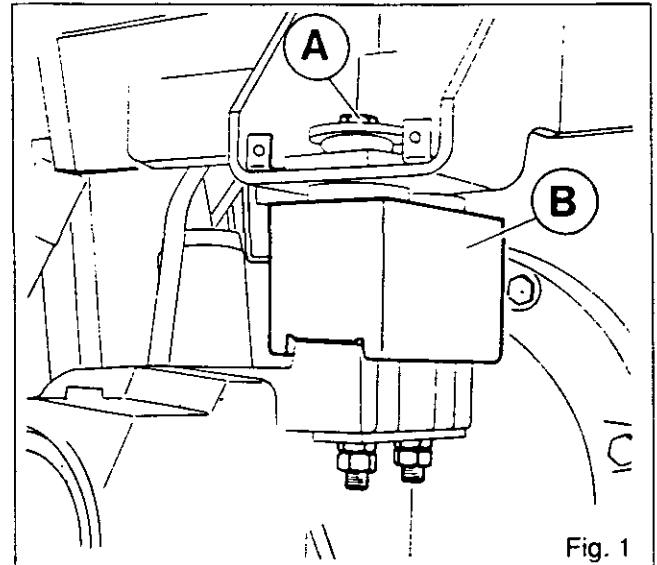
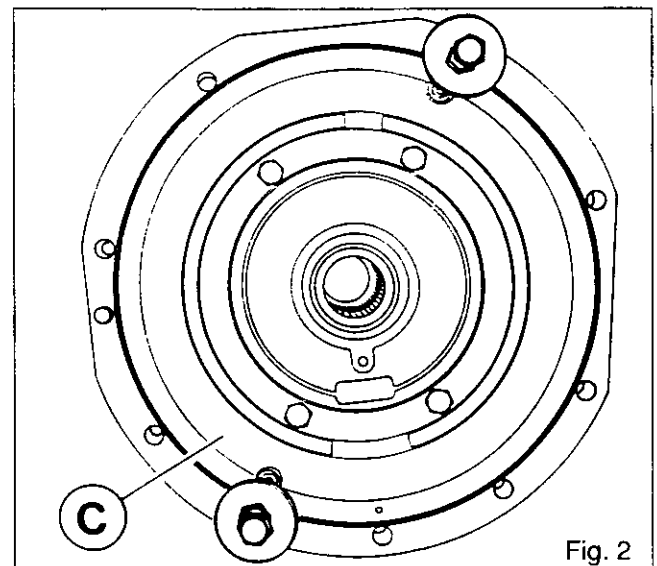

Fig. 1
Fig. 2
1. Immobilize the tractor. Apply the handbrake. Fit chocks between the frame and the front axle (see 3 A02 Fig 2).
8. Remove the cab attaching bolts (A) with the nuts (Fig. 1).
9. Raise the cab sufficiently to lift the support spacer (B) clear (Fig. 1).
12. Unscrew the attaching bolts (29).
- . the brake disc (27)
- . the planetary shaft (25)
- . the locating dowel (28)**Note: To prevent the brake piston (C) from coming out of the housing, it is recommended that two wide washers and two bolts be fitted diametrically opposite each other to hold it in place. (Fig.2)**
15. Remove the brake plate (26).